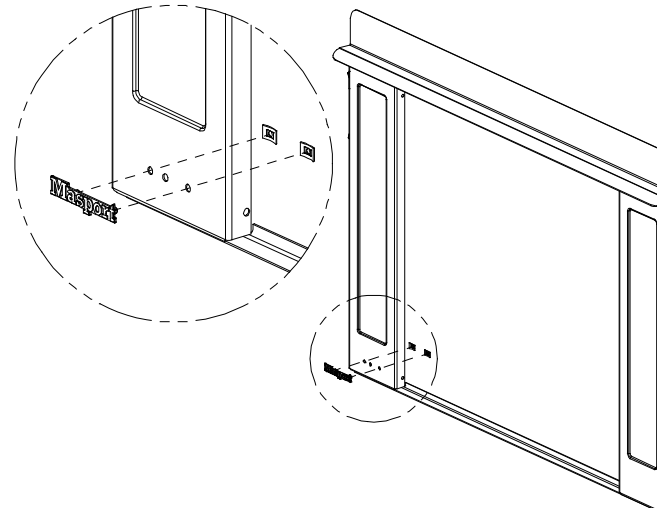

Fig 2
- 4) If not already fitted, push the Masport logo badge into the holes in the bottom left corner of the fascia and attach it using the clips provided. See Fig 2.
- 6) Connect the fan switch wires by taking the orange, brown and red wires with the female ends (in the thick wiring loom) and connect them to the fan switch (i.e. the 3 terminal bottom switch) noting the following positions. Connect the brown wire to the middle terminal, connect the red wire to the top terminal and connect the orange wire to the bottom terminal. Refer to 240V wiring diagram on page 4. And fig 2, (bevelled fascia).